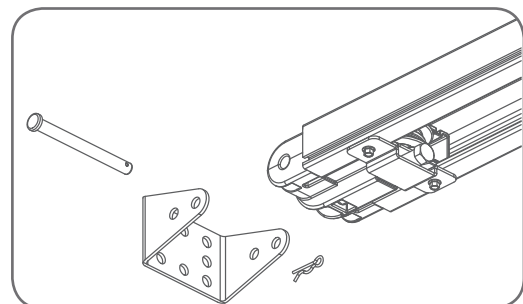

Fig. 17
- Attach the wall bracket to the C-Rail with the 90mm long clevis pin (**Fig. 17**) and secure by a snap pin.